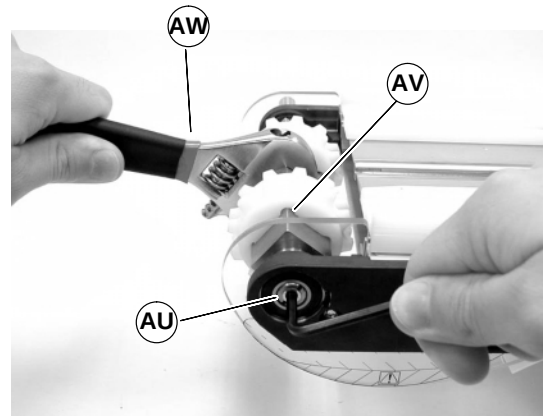

Figure 50
7. With 4mm hex-key wrench, tighten pulley taper screw (AU of Figure 50) to 75 in-lb (8.5 N-m). Steady pulley (AV) with wrench (AW).